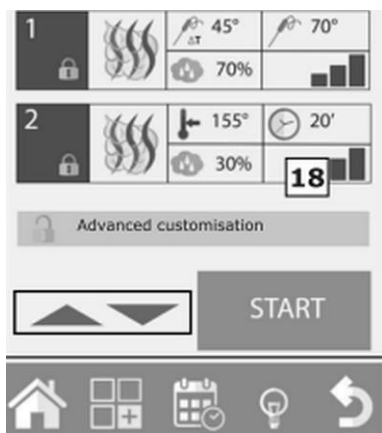

Fig. 23
1. If one or more thermal processing parameters are to be changed or automatic pre-heating is to be activated/deactivated, press "Advanced customisation" (key 18, Fig. 23).
3. Select the base thermal processing program, open it and make changes by pressing 'Advanced customisation' (key 18, Fig. 23).